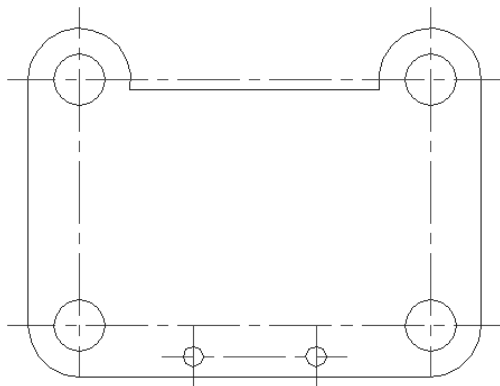

Figure 10-10: The completed tension arm.
4. Choose **Offset** from the **Modify** toolbar again. At the **Specify offset distance or [Through] <Through>:** prompt, type **4-19/64** ↵. Pick the centerline ③ at the **Select object to offset or <exit>:** prompt, and near ④ at the **Specify point on side to offset:** prompt. Press **Enter** to end the command. The vertical centerline appears 4-19/64 units to the right of the original.
5. Save your drawing. It should look like Figure 10-10.